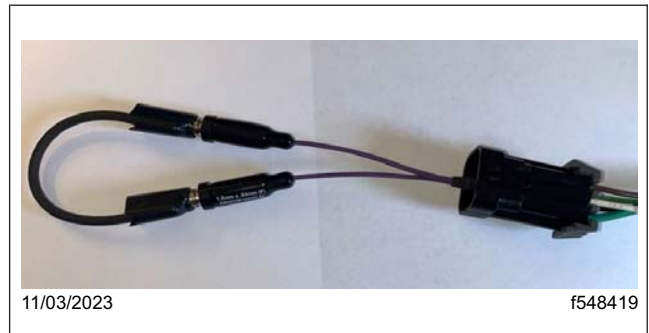
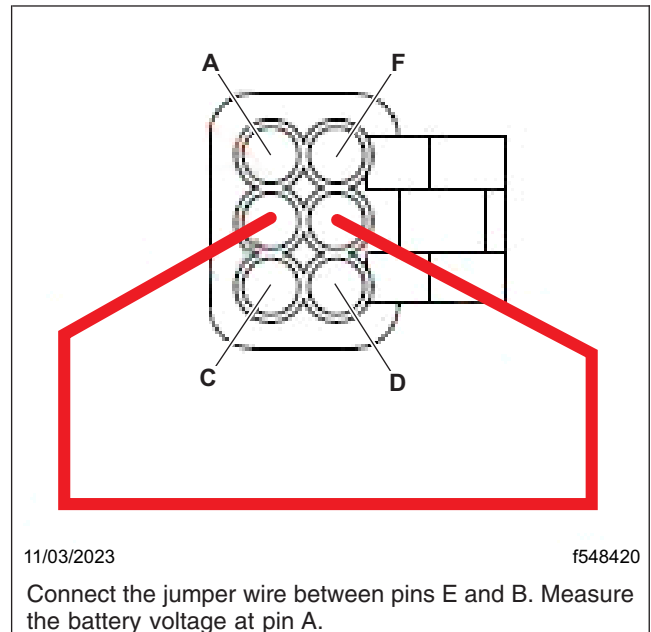

Fig. 95, Test Jumper Wire Installed in the Dual Plow Light Interface Connector Between Pin E (white wire added) and Pin B (ground)
Fig. 99, Dual Plow Light Interface Test Jumper and Voltage Check Pin Locations
- **For dual connector plow light interface** → On each of the two plow light interface connectors, install a test jumper between pin E (white wire added) and pin B (ground). See Fig. 95 and Fig. 99, page 59.
For dual connector plow light interface → Measure the battery voltage at pin A (green wire) on both the connectors. See Fig. 99.